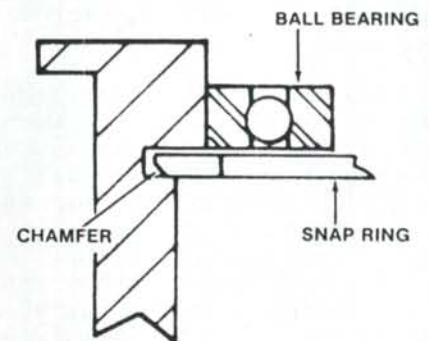
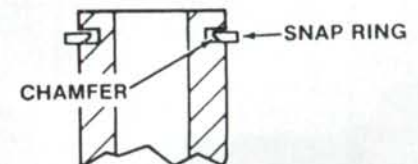
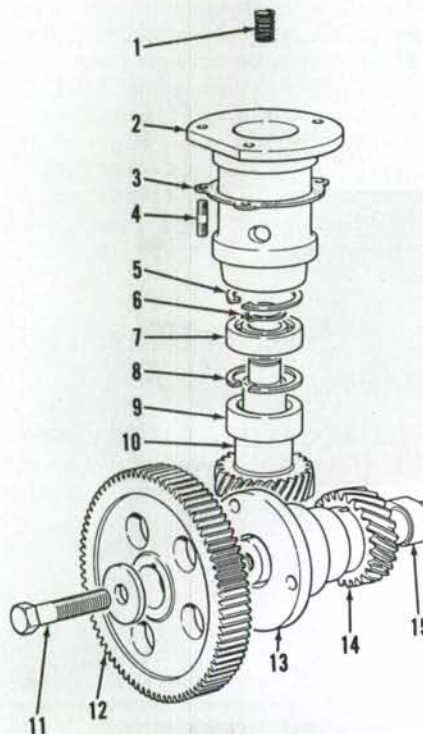

Fig. 111—View showing proper installation of snap ring retaining ball bearing in injection pump drive housing used on three-cylinder engines.
Fig. 112—When reinstalling drive gear in injection pump drive housing, install snap ring with chamfered edge downward.
Fig. 110—Exploded view showing three-cylinder diesel fuel injection pump drive assembly and related parts.
137. INJECTION PUMP DRIVE GEAR. To remove drive gear (10—Fig. 110) and housing assembly, first remove injection pump, splined drive shaft and drive shaft thrust spring as outlined in paragraph 136. Lift gear and housing assembly from cylinder block.
To remove drive gear from housing, remove snap ring (6—Fig. 110) from top end of gear (10) and press gear downward out of housing. Remove caged needle roller bearing (9) and snap ring (8) retaining lower bearing. Press bearing (7) out of housing (2).
To reassemble, install bearing (7—Fig. 110) first, then install snap ring (8) with chamfered edge downward. See Fig. 111. Press new needle roller bearing (9—Fig. 110) into position.
Install drive gear (10—Fig. 110) into housing assembly and install snap ring (6) with chamfered edge downward. See Fig. 112.